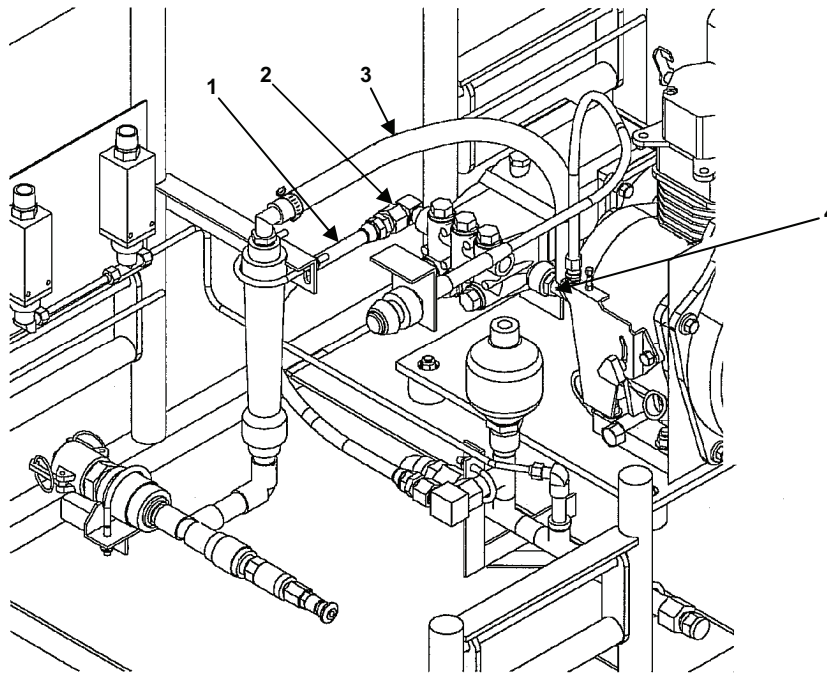

Figure 1. High-Pressure Pump Hose Removal.
1. Disconnect the inlet hose (Figure 1, item 3) and outlet hose (Figure 1, item 1) from the high-pressure pump.
- a. Disconnect the inlet hose (Figure 1, item 3) from the elbow (Figure 1, item 4).
- b. Disconnect the outlet hose (Figure 1, item 1) by unthreading nut (Figure 1, item 2).